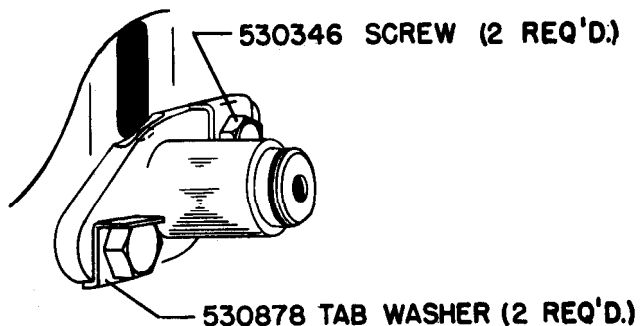

Fig. 4
E. Install 530343 starter pivot assembly with two each 530346 screws and 530878 tab washers as shown in Fig. 4. Bend tab washers as shown to lock screws.